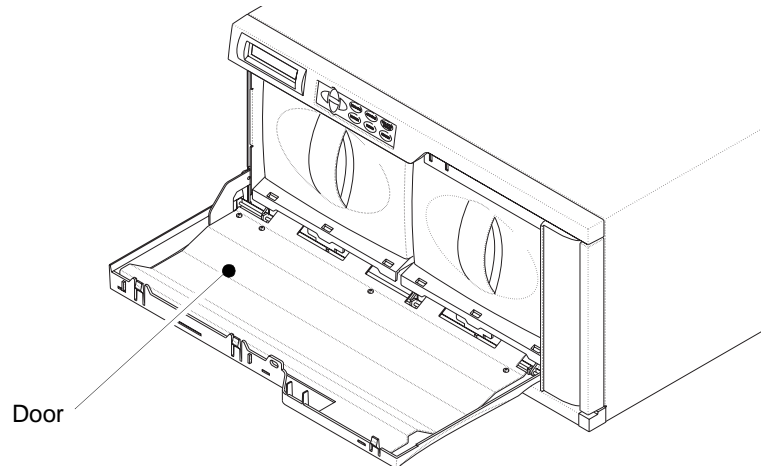

Figure 2-1 Opening the library's door
2. Grasp the library's door at the top and pull it open, as shown in Figure 2-1.